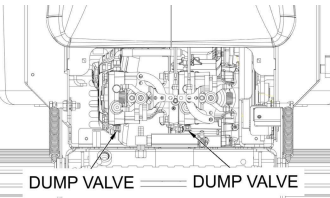
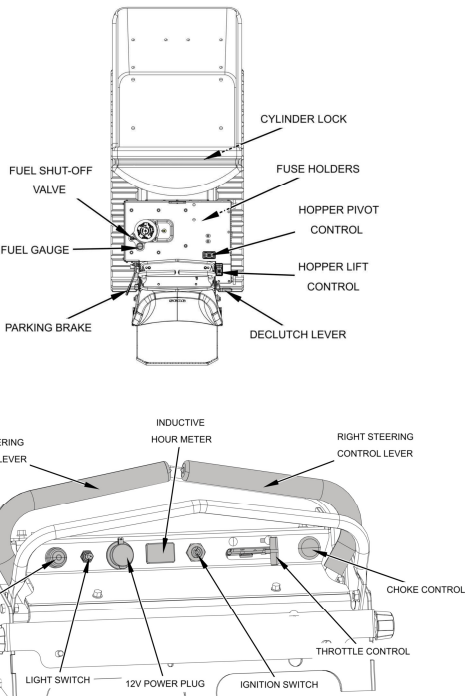

Figure 4-1. Dump Valve Location
Figure 4-2. Controls and Instruments
- Ignition Switch (Figure 4-2):** The ignition switch is used to start the engine and has three positions: OFF, ON, and START.
- Engine Choke Control (Figure 4-2):** Controls the air pressure in the intake manifold. Only use when starting a cold engine.
- Engine Throttle Control (Figure 4-2):** Controls the engine speed. Pushing the lever forward increases the engine speed. Pulling the lever back decreases the engine speed. The furthest back position of the lever is the IDLE position.
- Inductive Hour Meter (Figure 4-2):** Indicates the number of hours the machine has been operated for.
- Light Switch (Figure 4-2):** Controls the working lights on the machine.
- Horn Button (Figure 4-2):** Controls the horn on the machine.
- 12V Power Plug (Figure 4-2):** An additional power supply for all your worksite needs.
- Left Steering Control (Figure 4-2):** Controls power to the left track. See Section 4.4 for further information regarding ground travel and steering.
- Right Steering Control (Figure 4-2):** Controls power to the right track. See Section 4.4 for further information regarding ground travel and steering.
- Parking Brake Lever (Figure 4-2):** Engages and disengages the parking brakes. Move the lever back and lock to engage the parking brakes. Unlock the lever and move forward to disengage the parking brakes.
- Hopper Lift Control Lever (Figure 4-2):** Controls the dump and lift action of the hopper.
- Hopper Pivot Control Lever (Figure 4-2):** Controls the turning pivot action of the hopper.
- Fuse Holders (Figure 4-2):** Two 20-amp fuses protect the electrical system of the machine. Pull a fuse out of the socket to replace.
- Fuel Gauge (Figure 4-2):** Indicates the amount of fuel in the fuel tank.
- Fuel Shut-Off Valve (Figure 4-2):** Controls the fuel supply to the engine. Located on top of the fuel tank and accessible on top of the machine.
- Dump Valve Controls (Figure 4-2):** Located on the hydraulic pumps and used to "free-wheel" the buggy. Rotating clockwise until closed allows the machine to move under hydraulic power. The levers must be in this position and torqued 7 to 10 ft-lb during the operation of the machine. Rotating counter-clockwise allows the machine to be moved by hand (free-wheeling). See Figure 4-1.
- Declutch Lever (Figure 4-2):** Detent control for the pump drive idler arm. Pull the lever out to lock the idler arm. Push the lever in to release the idler arm and allow motion.